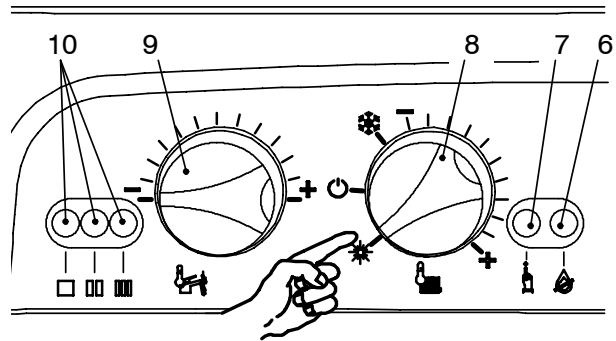
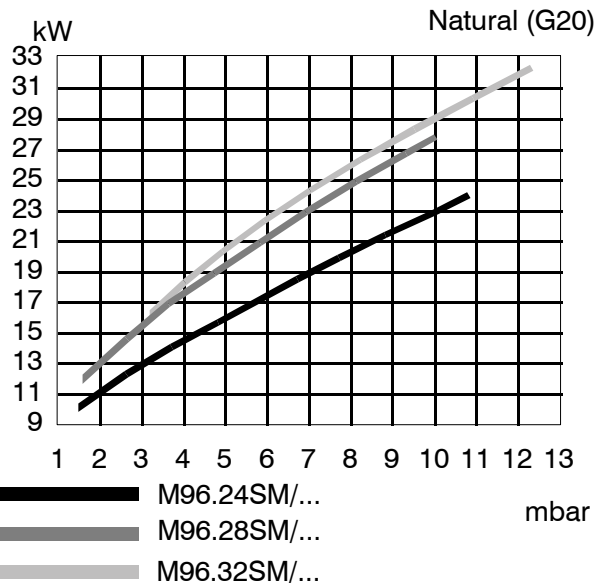
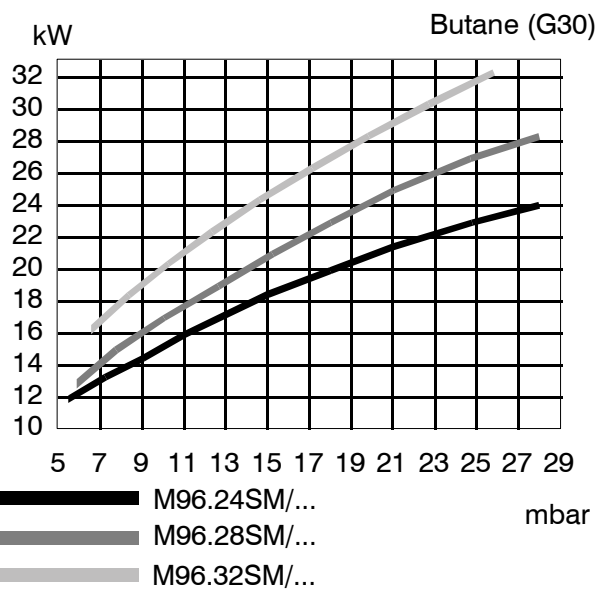
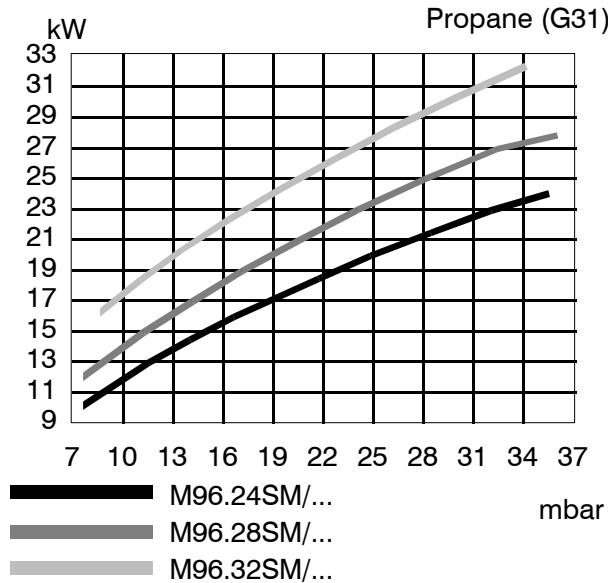

Fig. 7.6
Fig. 7.11
Fig. 7.12
Fig. 7.13
Refer to Fig. 7.11, Fig. 7.12 and Fig. 7.13 (depending on the gas used) and determine the correct burner pressure appertaining to the output required for the central heating requirement.
- 3 Rotate the knob 9 as in Fig. 7.6.
- 4 Turn the boiler ON positioning the function selector 8 as indicated in Fig. 7.6 and ensure that the timer selector switch and room thermostat, if fitted, are set to "heat demand".
- 8 Rotate the knob 9 in Fig. 7.6 to obtain the pressure to the burner to meet with the central heating system requirements. Refer to the diagrams shown in Fig. 7.11, Fig. 7.12 or Fig. 7.13